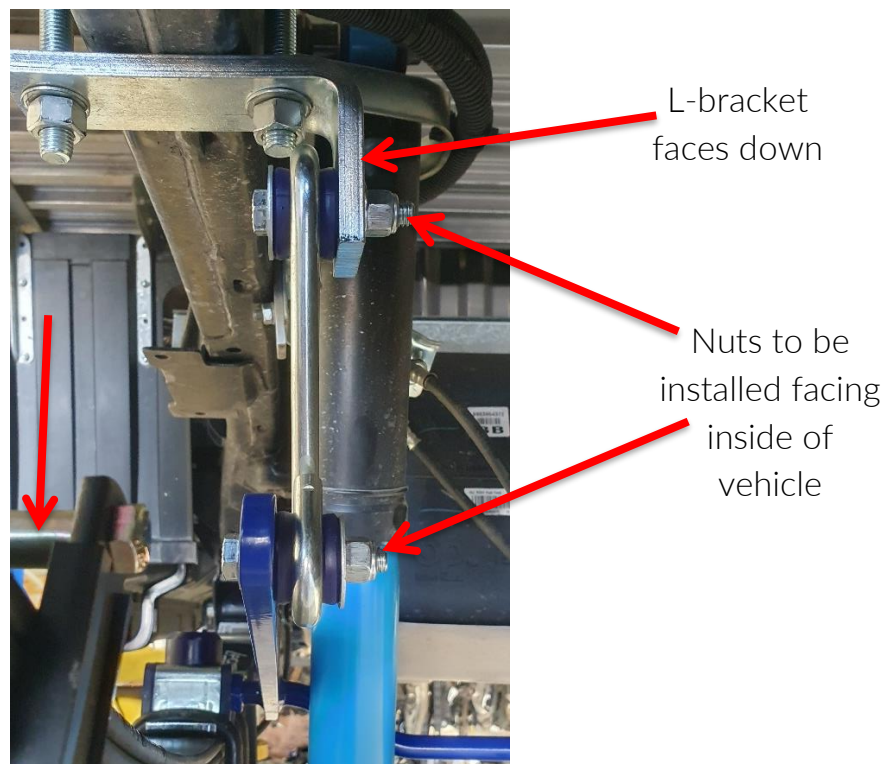

Figure 1: Left side link pin installation to L-bracket (Viewed from rear of vehicle)
- Repeat the above 2 steps for the right-hand side, with the L-bracket and link pin orientation mirrored. The bolts should be pointing inward, with the nuts on the inside see Figure 1
- Swing the bar upward and connect the left-hand side sway bar link using the bolts, nuts and washers provided, as shown in Figure 1. It is recommended that the middle hole on the swaybar is used initially, same position must be used on both sides of vehicle. Repeat for the right-hand side, with the orientation mirrored.